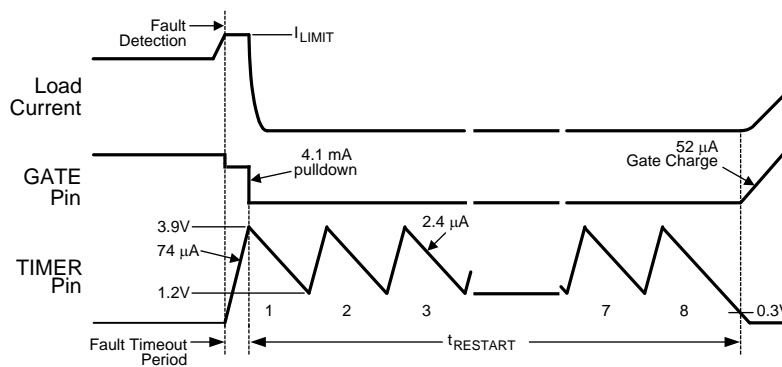

Figure 4. Restart Sequence
The LM5064 provides an automatic restart sequence which consists of the TIMER pin cycling between 3.9V and 1.2V eight times after the Fault Timeout Period, as shown in Figure 4. The period of each cycle is determined by the 74 μ A charging current, and the 2.4 μ A discharge current, and the value of the capacitor C_T . When the TIMER pin reaches 0.3V during the eighth high-to-low ramp, the 52 μ A current source at the GATE pin turns on Q_1 . If the fault condition is still present, the Fault Timeout Period and the restart sequence repeat. The RETRY pin allows selecting no retries or infinite retries. Finer control of the retry behavior can be achieved through the DEVICE_SETUP (D9h) register. Retry counts of 0, 1, 2, 4, 8, 16 or infinite may be selected by setting the appropriate bits in the DEVICE_SETUP (D9h) register.
C) Restart Timing For the LM5064, after the Fault Timeout Period described above, C_T is discharged by the 2.4 μA current sink to 1.2V. The TIMER pin then cycles through seven additional charge/discharge cycles between 1.2V and 3.9V as shown in Figure 4. The restart time ends when the TIMER pin voltage reaches 0.3V during the final high-to-low ramp. The restart time, after the Fault Timeout Period, is equal to: